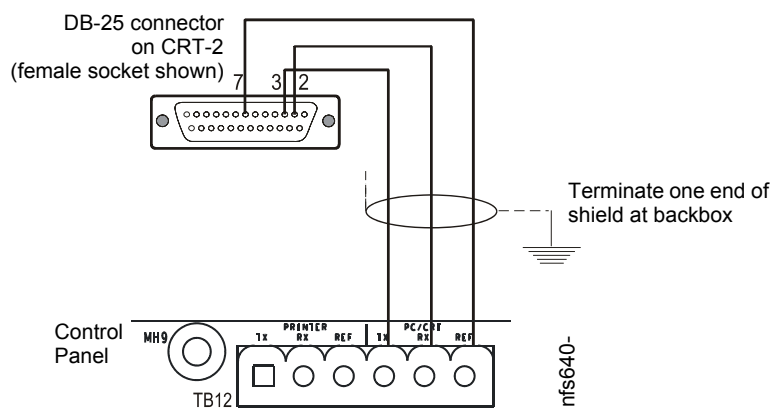

Figure 3.6 Connecting a CRT-2
1. Connect the three (3) open leads of the custom cable to the TB12 terminal block on the control panel as shown in Figure 3.6.